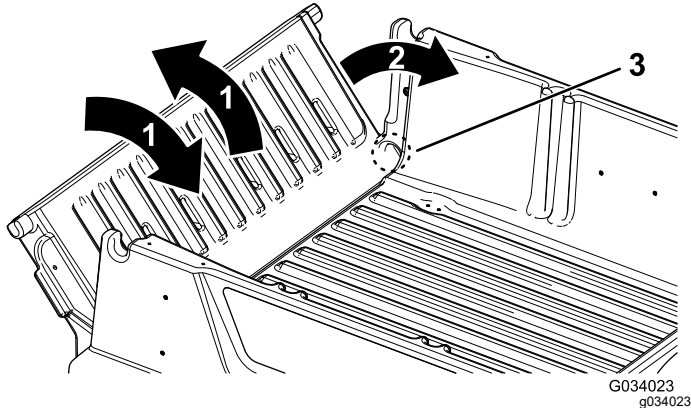

Figure 14
2. Rotate the tailgate to approximately the 45° position (Figure 14).
3. Use a short, shaking motion to rotate the tailgate back and forth several times (Figure 14).